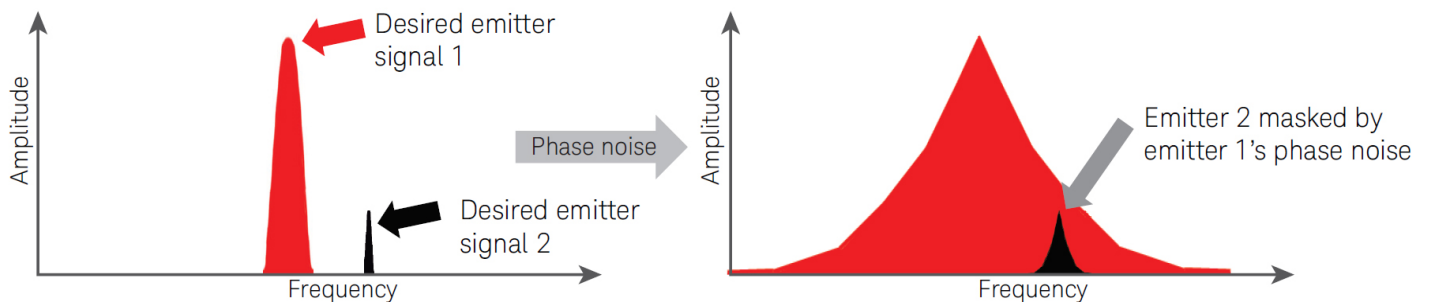

Figure 1. The phase noise profile of an emitter with relatively large amplitude is shown here masking a relatively low amplitude signal nearby.
- **Phase Noise.** Phase noise is one of the most important figures-of-merit of a signal generating device and is a measure of its spectral purity. It can well be a limiting factor in mission-critical applications in aerospace and defense, such as Radar and EW, where it can mask relatively small signals close to a carrier's noise sidebands in multi-emitter environments, and falsely simulate clutter in Doppler applications (Figure 1).